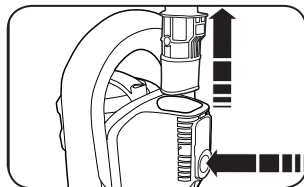

Fig. 1
1. Remove the handle by pressing the tube release button and pulling the handle upwards (Fig. 1).